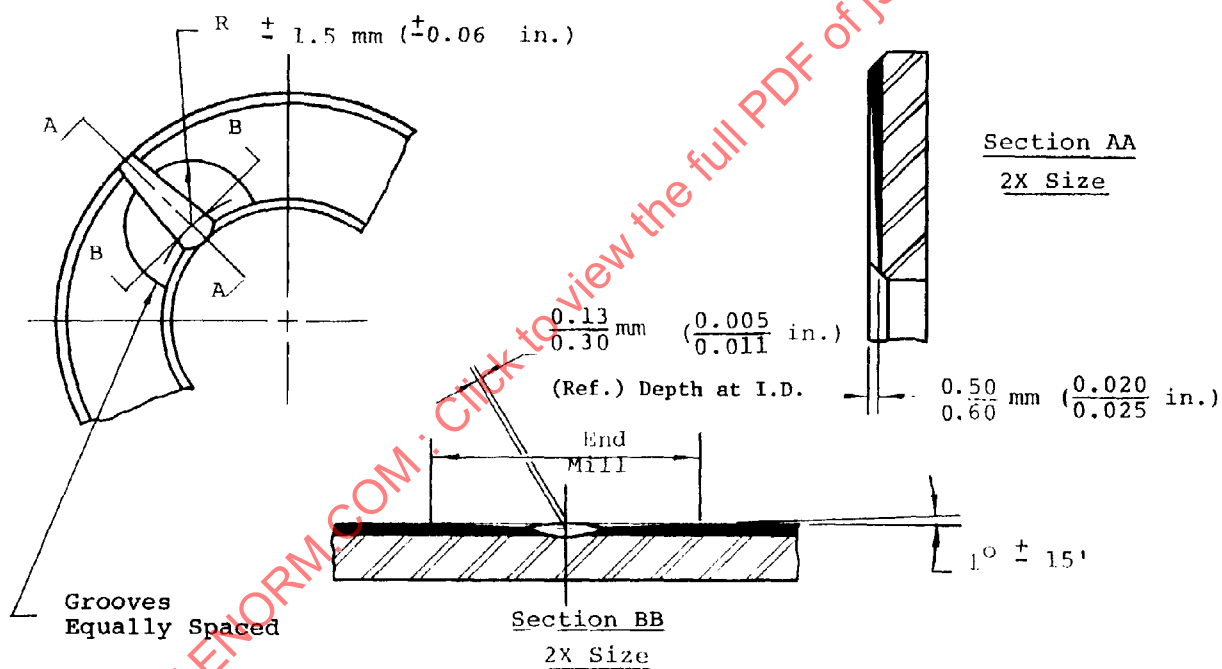

FIGURE 4—SPECIAL GROOVING AND THRUST FACE CONTOUR
3.14 Special Grooving and Thrust Face Contour—For applications having higher loads, washers employing blended tear drop grooves or tapered lands can be used. Applications of this type should be referred to a bearing designer for analysis. See Figures 4 and 5.